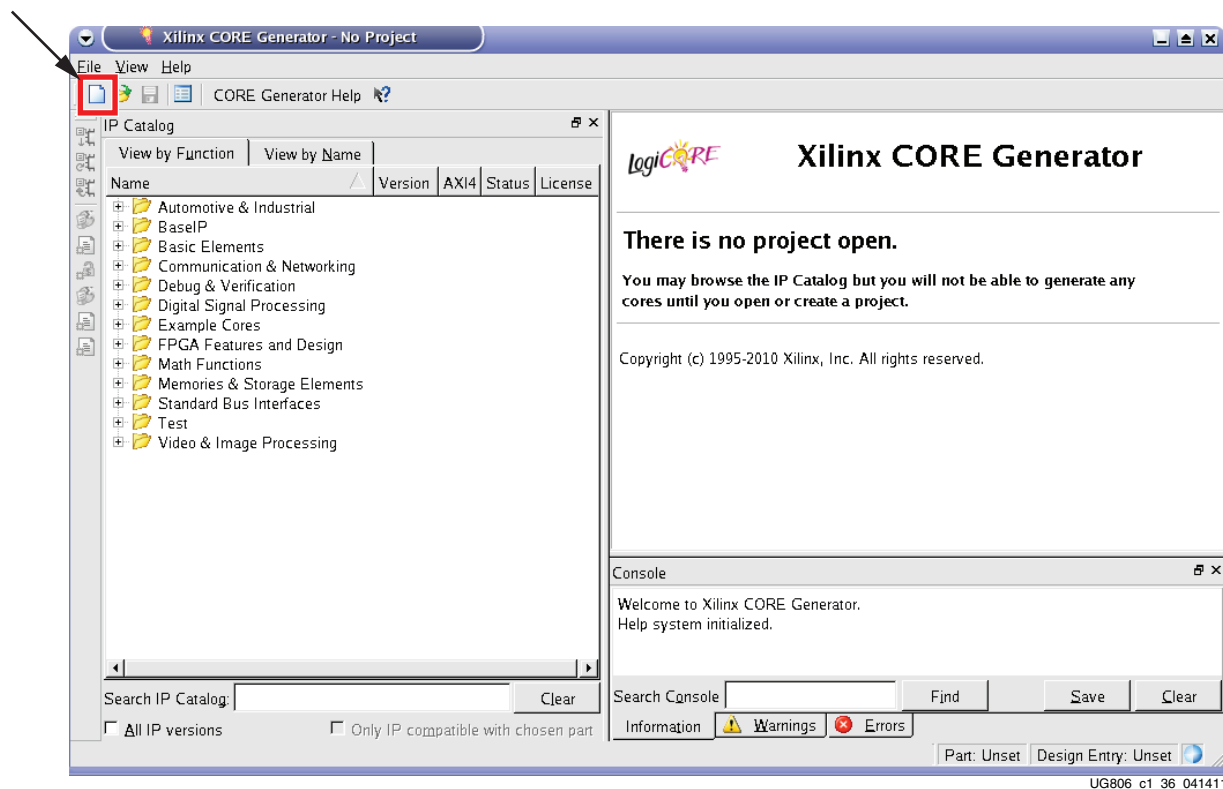

Figure 1-36: Open New Project Icon, CORE Generator Project Window
2. In the Core Generator window, click the **New Project** icon (highlighted in Figure 1-36).